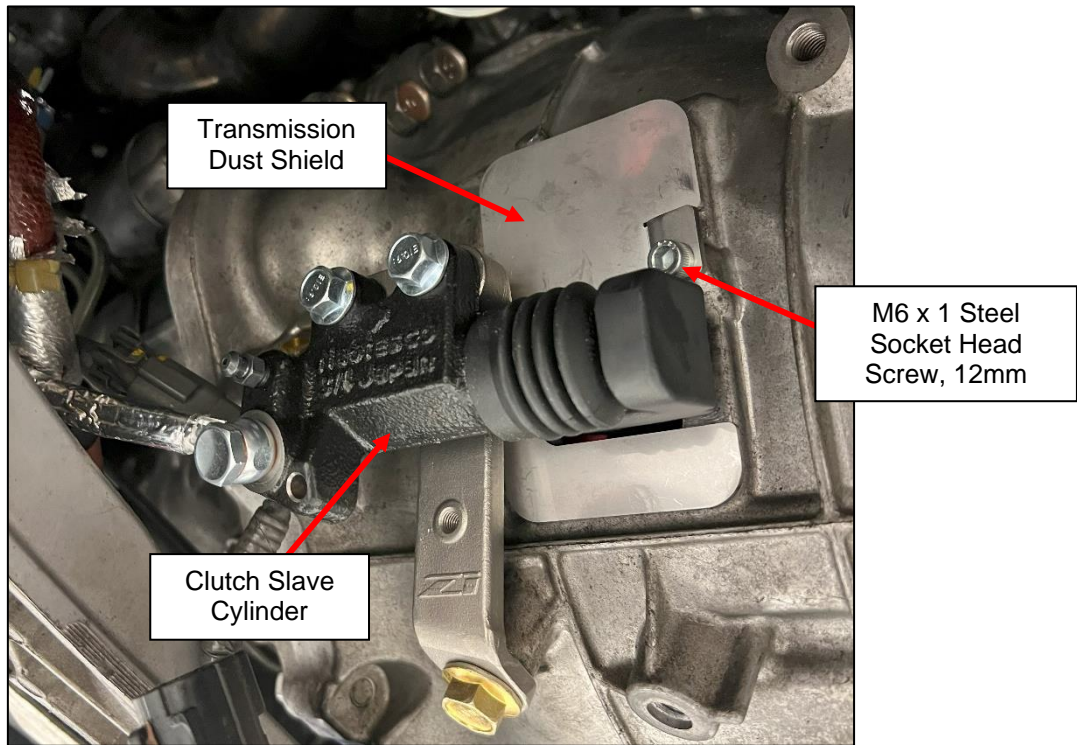

Figure 25
50. Locate the Transmission Dust Shield and (1) one M6 x 1 Steel Socket Head Screw, 12mm Long. Position the Dust Shield Behind the Clutch Slave Cylinder and install the M6 Screw into the OEM factory hole, as seen in *Figure 25*. Torque to 80 in-lbs.